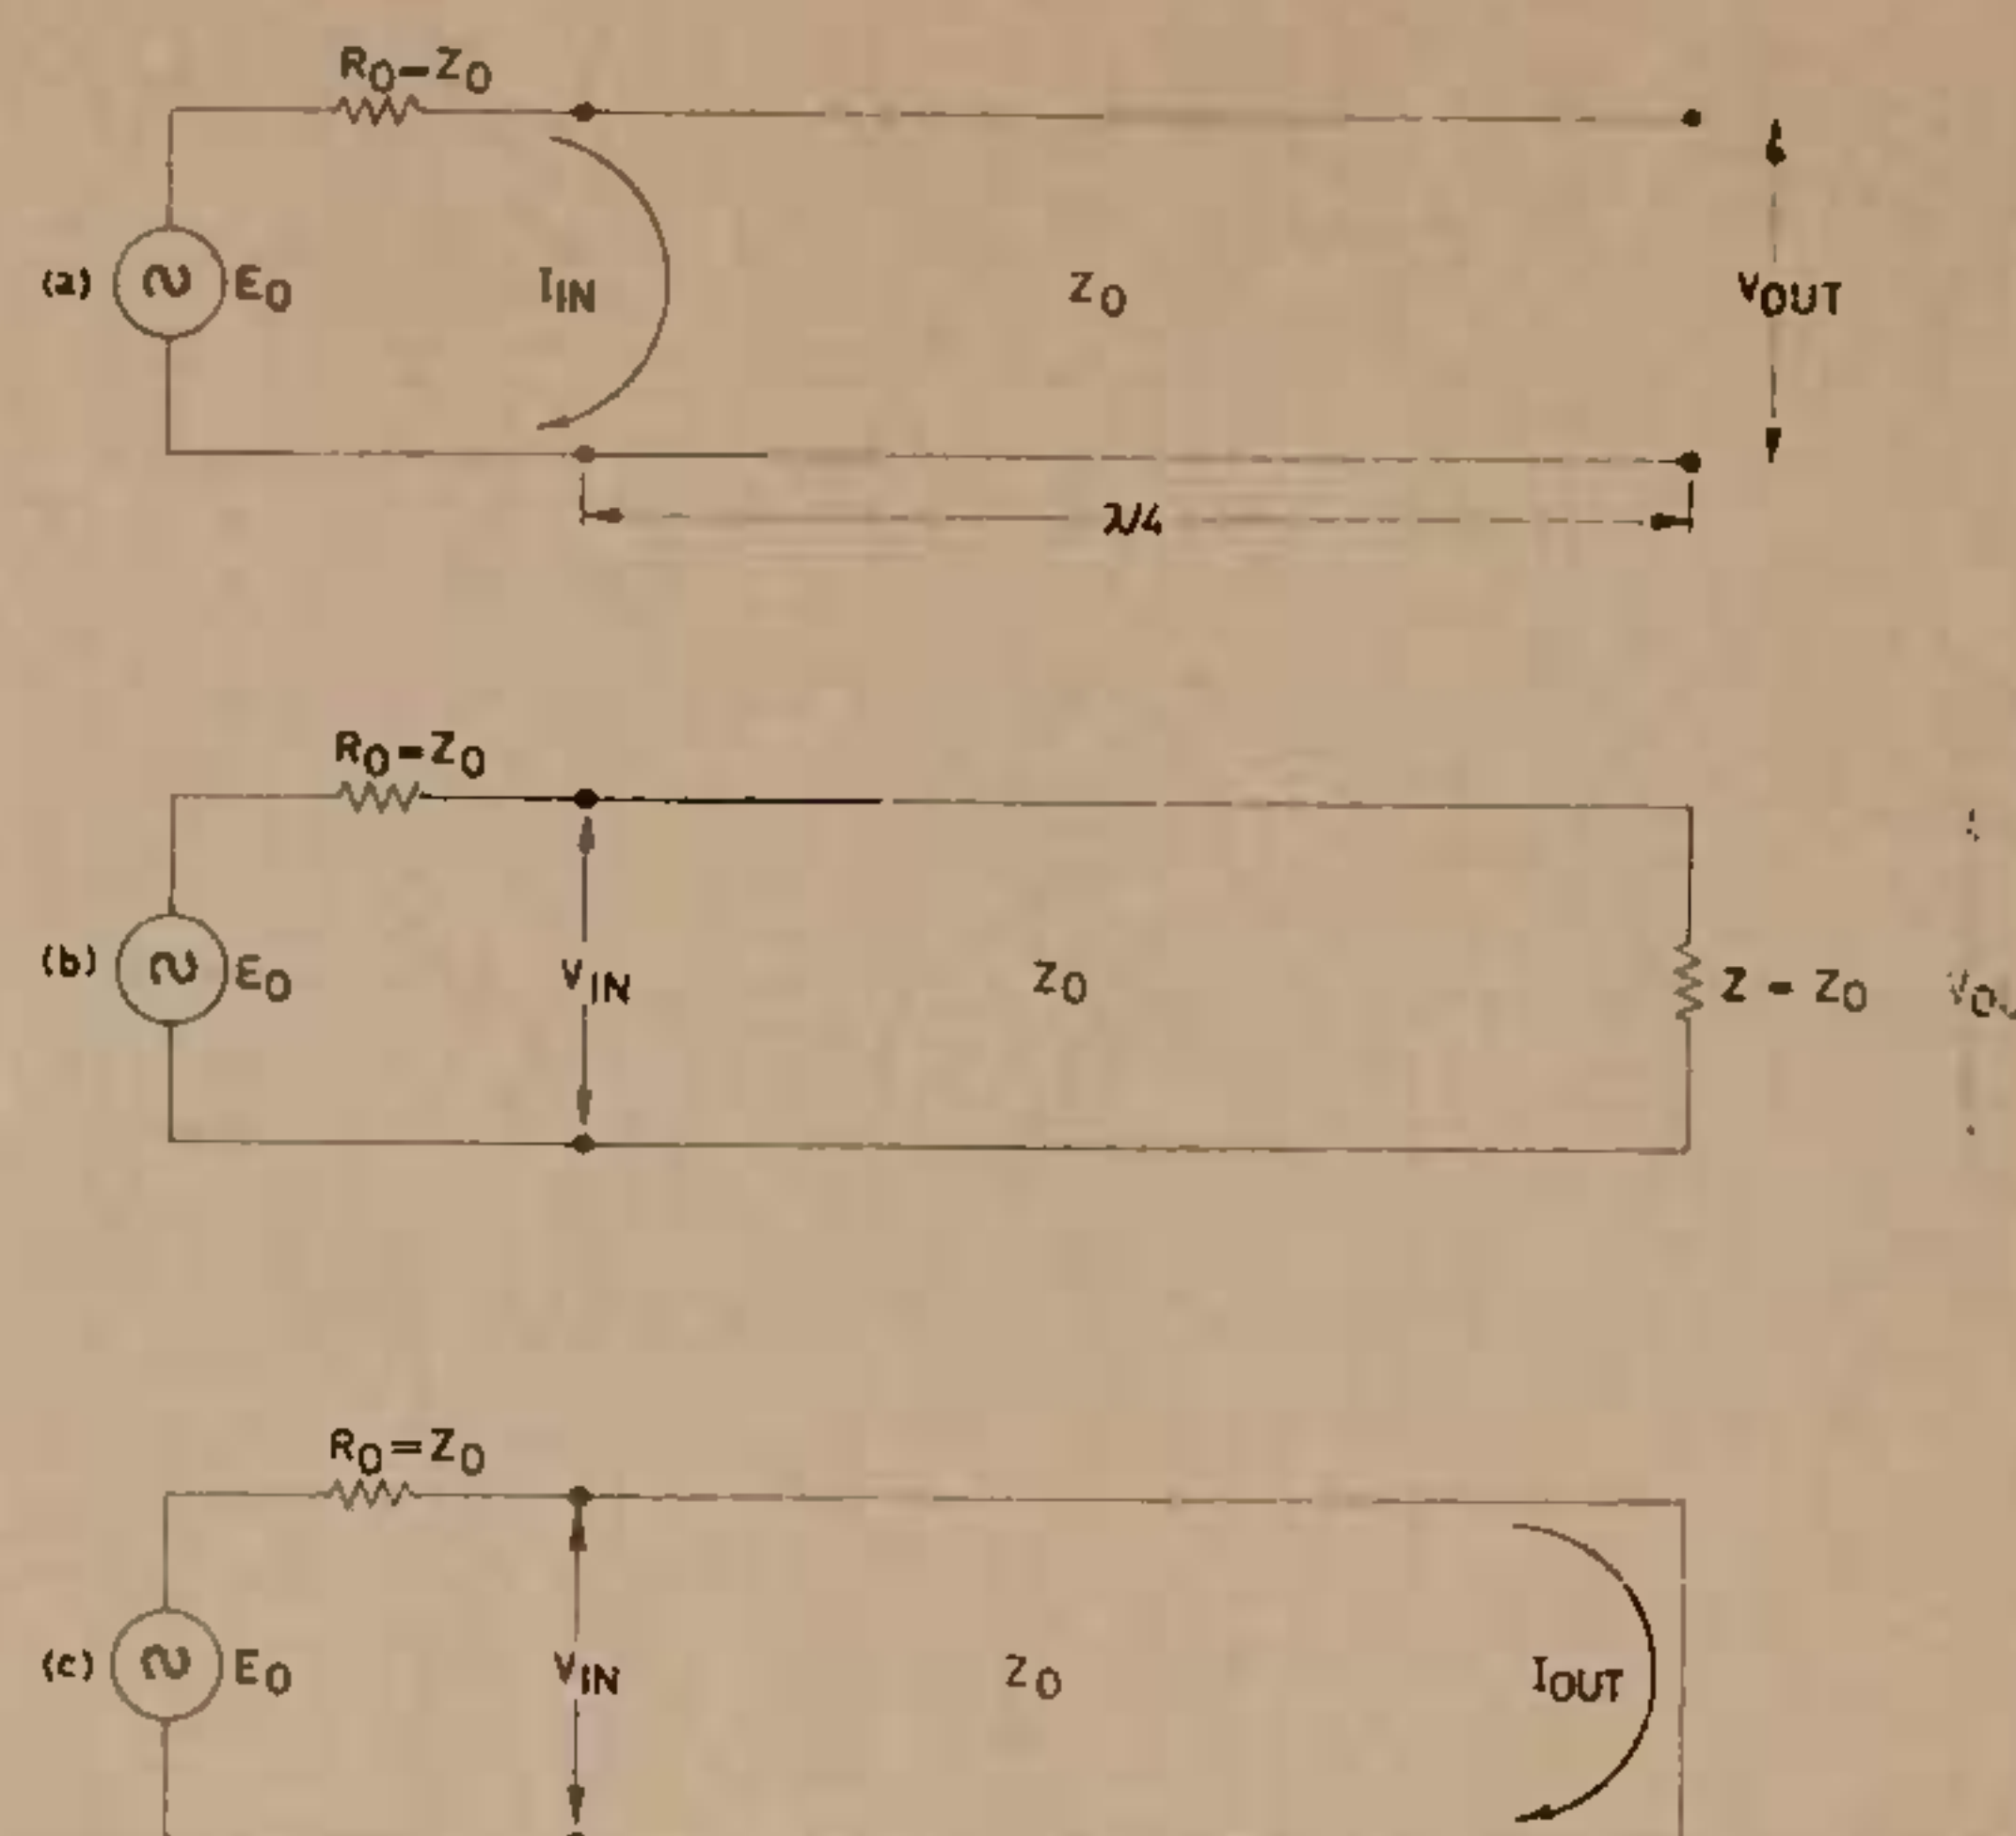

Figure 4: (a) A transmission line open-circuit at the receiving end. (b) Correctly terminated transmission line. (c) Short-circuit at the receiving end.
The significance of the v.s.w.r. figure stems from the fact that, when the cable is correctly terminated at the sending end by R_0 , the phase and magnitude of the voltage developed across R_0 by the reflected power exactly matches the effect of the standing wave. The e.m.f. and source impedance at the receiving end of the cable are, therefore, exactly equal to the e.m.f. and source impedance at the sending end. A complete explanation of this effect has been given by Flanagan (1); but we can take as an illustration the example of a quarter-wavelength cable fed from a matched source as shown in figure 4.